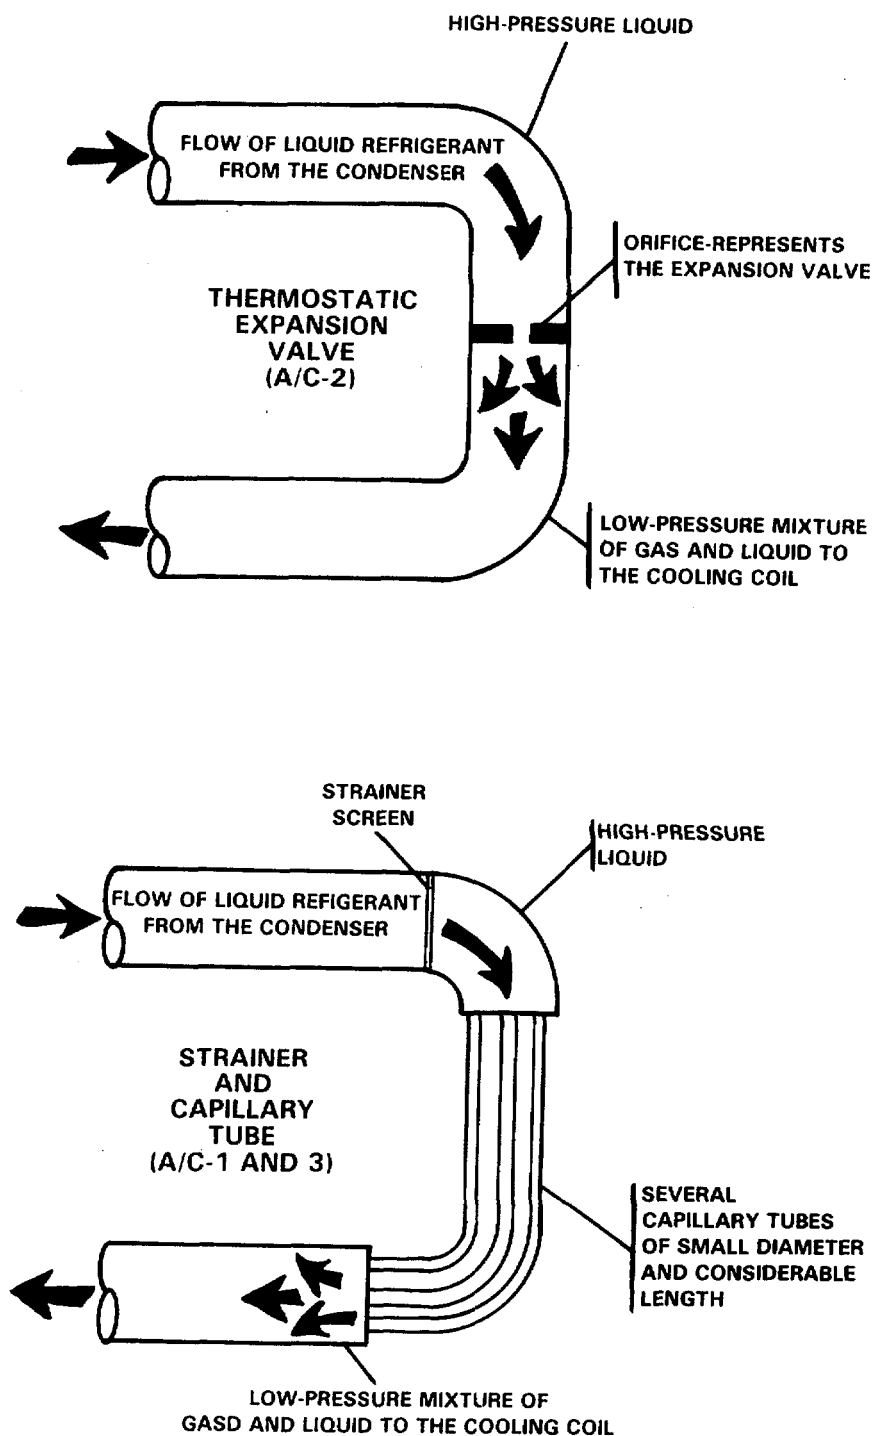

FIGURE 1-5. *Methods of Metering Refrigerant Flow to the Cooling Coil (Evaporator).*
- e. Expansion Valve. FIGURE 1-5 illustrates the principle of both the expansion valve method and the capillary tube method of metering the refrigerant flow.
- (1) Expansion Valve Method. The expansion valve reduces the pressure of the refrigerant liquid, and in doing so, it cools the liquid. Refrigerant enters the valve under pressure. As it passes through a small valve port, it enters the low pressure area of the cooling coil. The valve port acts as a metering device between a high pressure area (the condenser), and a low pressure area (the cooling coil). As the pressure is reduced, the point at which the liquid becomes a vapor is also reduced. Therefore, after the liquid refrigerant passes through the metering port in the expansion valve, it begins to vaporize in the cooling coil because it is now in a low pressure area.
- (2) Capillary Tube Method (Self-Contained A/C Units). The principle, or function, of the capillary tube method is the same as that of the expansion valve method. The basic difference in the two methods is that the refrigerant is metered through a series of long, small diameter capillary tubes instead of through a single, small valve port. (See FIGURE 1-5.)